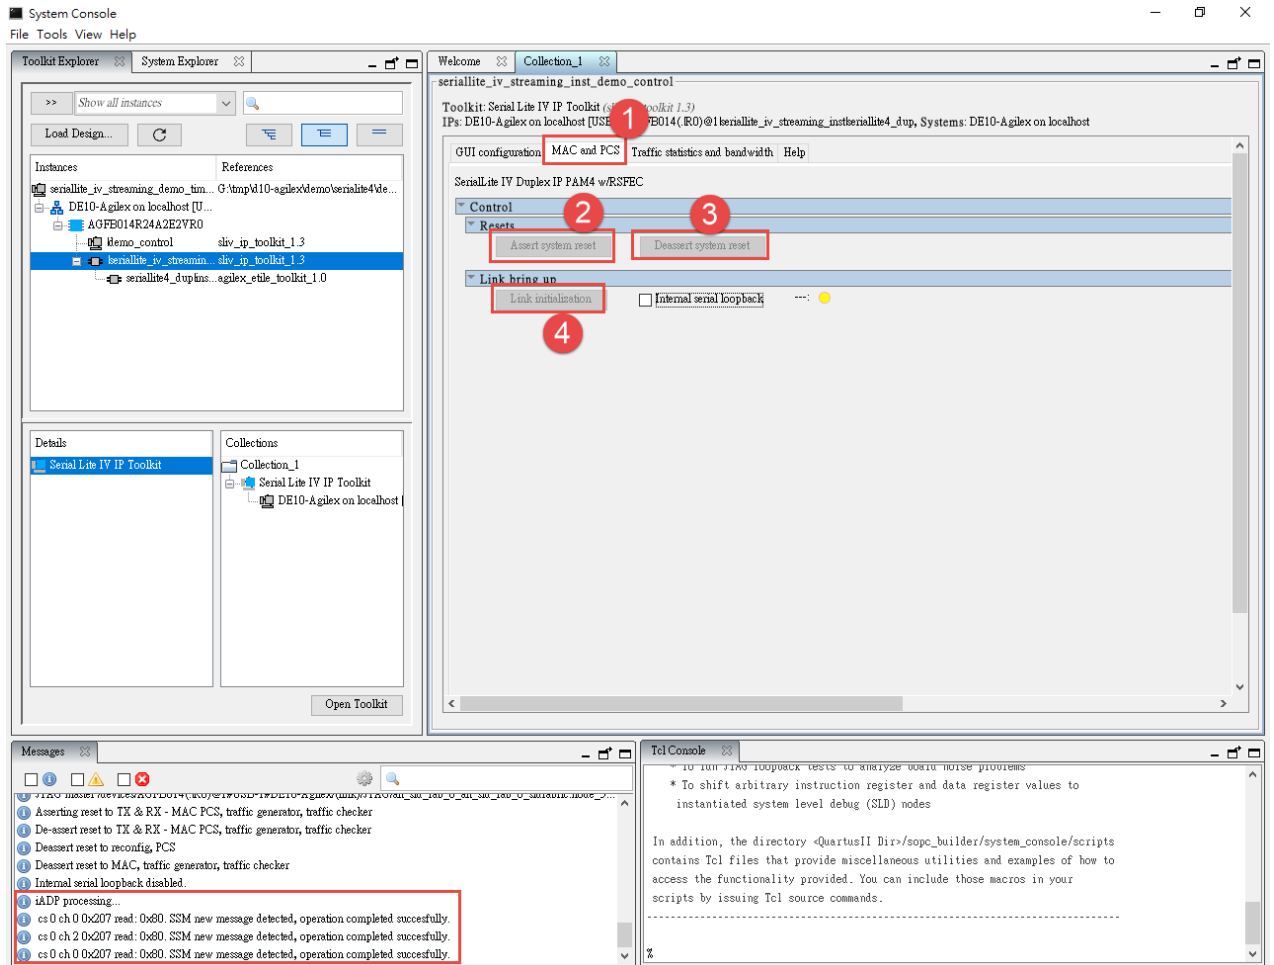

Figure 9-21 Setup MAC and PCS tab
7. Please refer to the **Figure 9-21**, choose **MAC and PCS** tab and follow steps 1~4 to implements various CSR for both the hardened custom PCS core and the MAC soft logic.